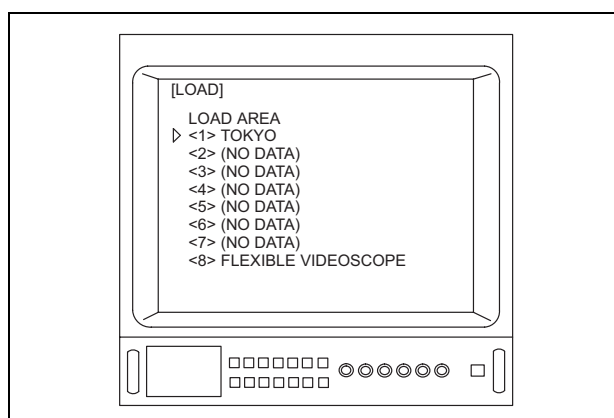

Figure 5.81
6. Depress the menu switches “◀” or “▶”, or the “↑/↓/←/→” key on the keyboard to move the arrow “▷” to the number that you would like to load (for example, “<1>”) (see Figure 5.81).
Depending upon the OTV-S7V's settings, the menus shown in Figures 5.81, 5.82 and/or 5.83 may appear different from those displayed on the video monitor.